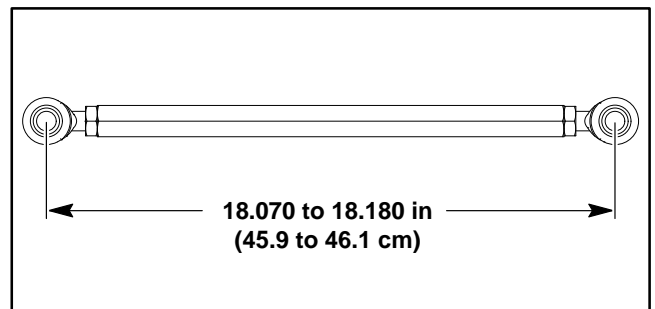

Figure 51
A. If ball joints were removed from link assembly (item 19), install ball joints equally on both ends of link. Adjust center to center length of link assembly from **18.070" to 18.180" (45.9 to 46.1 cm)** (Fig. 51). Tighten jam nuts to secure ball joints to link. Make sure that ball joints stay in-line when tightening jam nuts.